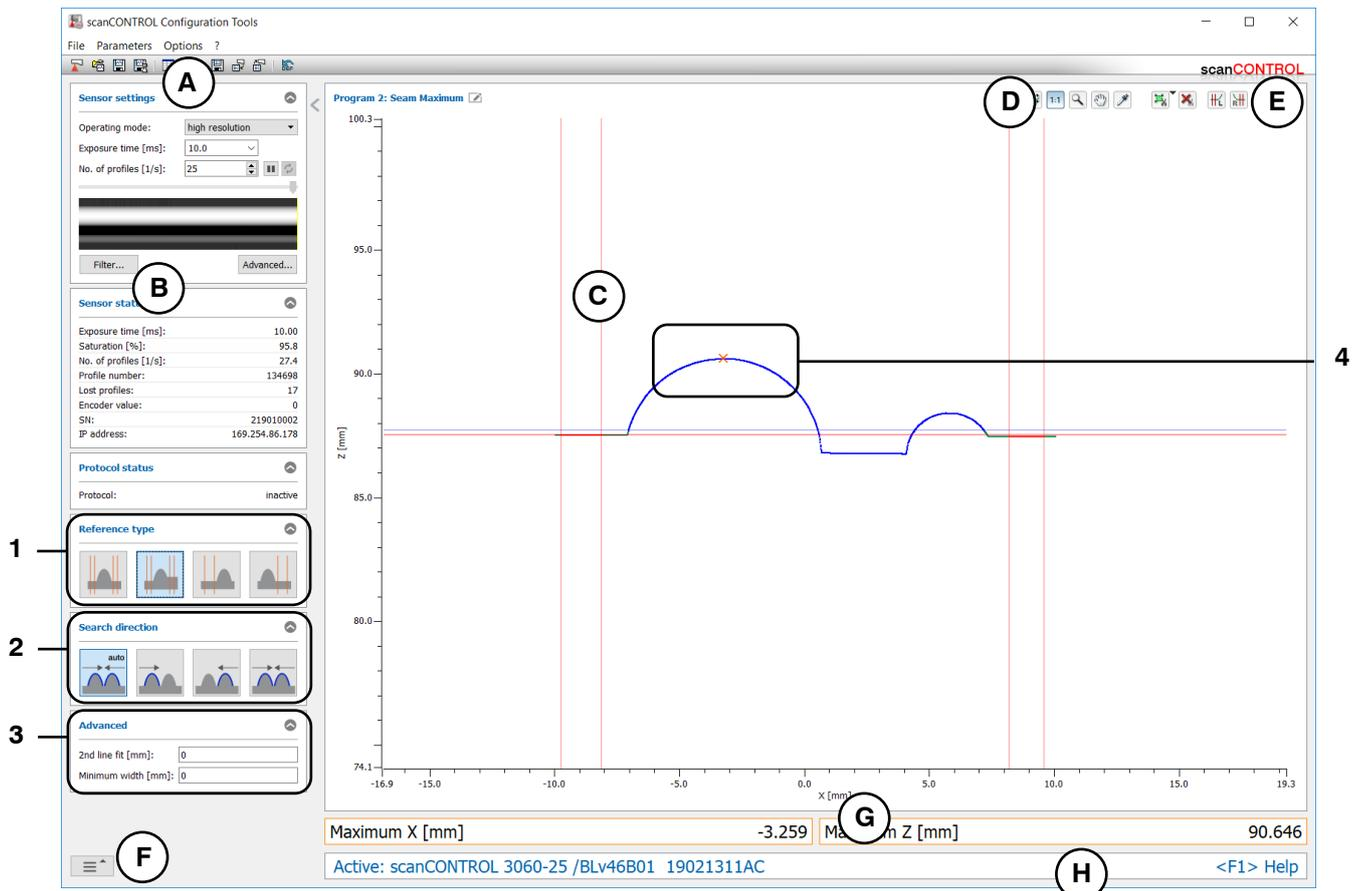

Fig. 4.28: "Seam Maximum" measuring program
- Define the type of heightening (see Fig. 4.28 and Chapter 3.13.1):